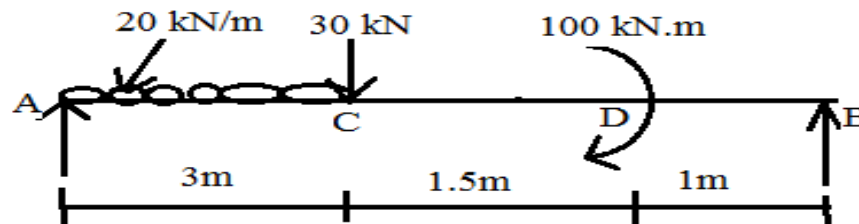

Figure 4
- (b) Draw shear force and bending moment diagram for the beam shown in Figure 4. (16)